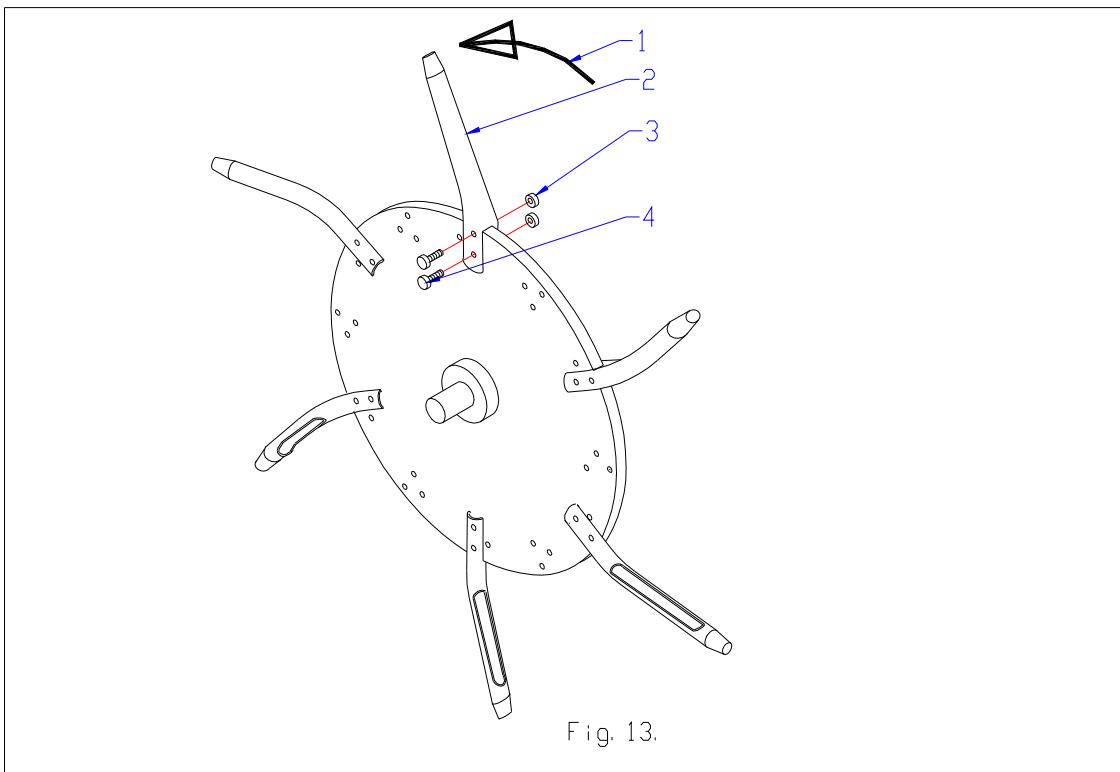

Fig. 13.
12.3 HOLLOW TINE KIT (See fig.13)
Assemble them as is drawn in Fig. 13. Divide them even around the disks. If you want to use 12 per disk, simply order another kit .